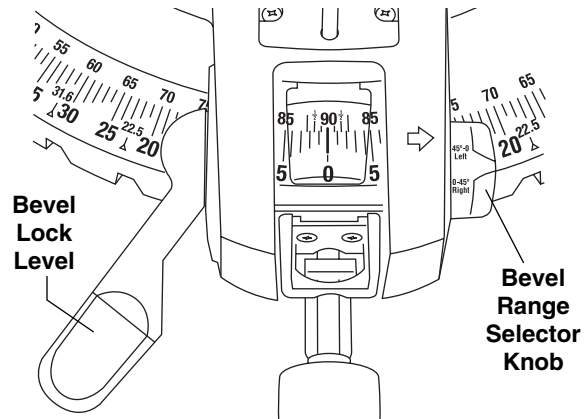

Figure 1.
Choose the desired bevel range using the bevel range selector knob (Figure 1).
- Lift bevel lock lever to release bevel lock (Fig. 1).